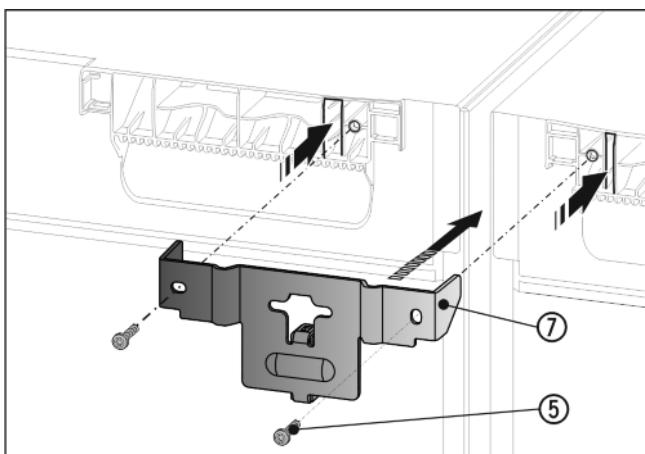

Fig. 9
- ▶ Slide the bracket Fig. 9 (7) onto the top of the appliance with the lugs and with the spacer between the appliances. Screw in firmly with the 2 screws Fig. 9 (5).